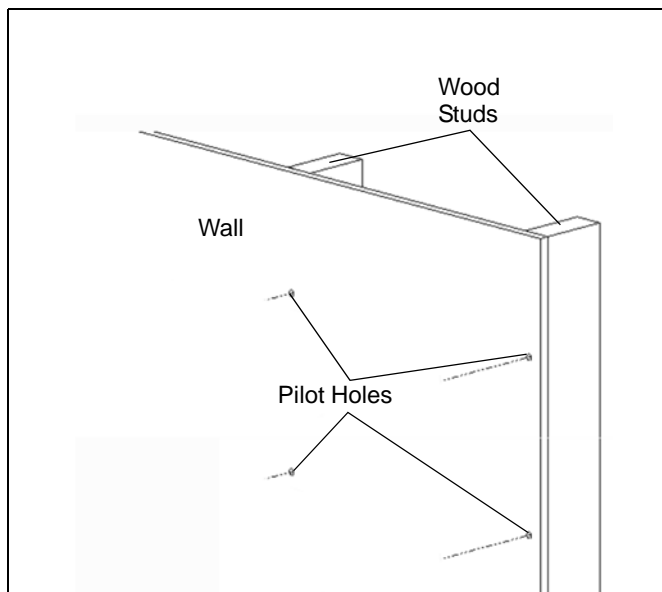

Figure 1
2. Using a stud sensor, locate the two wood studs where you will mount the PLP-16. (See Figure 1)